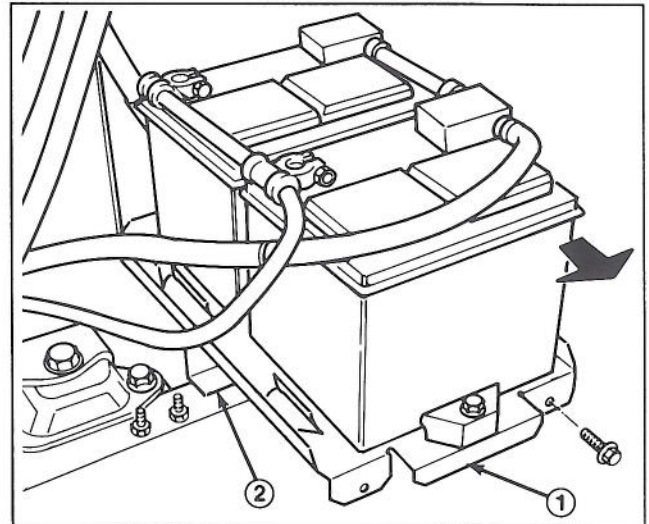

Figure 2
4. Remove (2) flangehead screws retaining battery tray to the battery base (Fig. 2). Slide battery tray out to the side. This gives you more space to work on the hydraulic system.